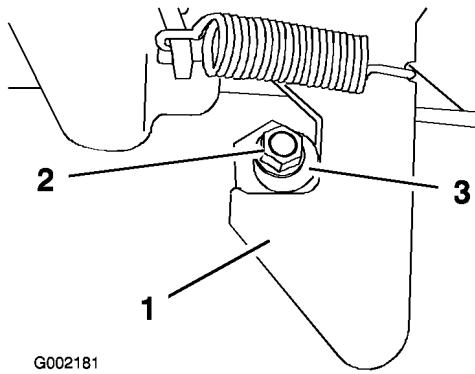

Figure 14
1. Loosen the nut on the end of the latch post (Figure 14).
- Turn the latch post clockwise until it is snug against the latch and then tighten the nut (Figure 14).